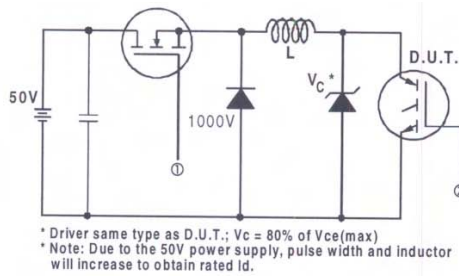

Fig. 13a - Clamped Inductive Load Test Circuit
- ② $V_{CC} = 80\%(V_{CES})$, $V_{GE} = 20V$, $L = 10\mu H$, $R_G = 5.0\Omega$, (See fig. 13a)
- ③ Repetitive rating; pulse width limited by maximum junction temperature.
- ④ Pulse width $\leq 80\mu s$; duty factor $\leq 0.1\%$.
- ⑤ Pulse width $5.0\mu s$, single shot.